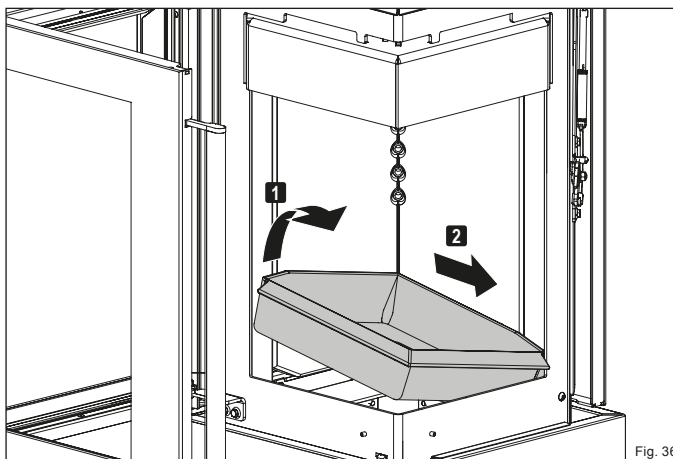

Fig. 36
- ▶ Turn the fire grate over the right edge **1** and remove from the firebox **2** (Figure 36).